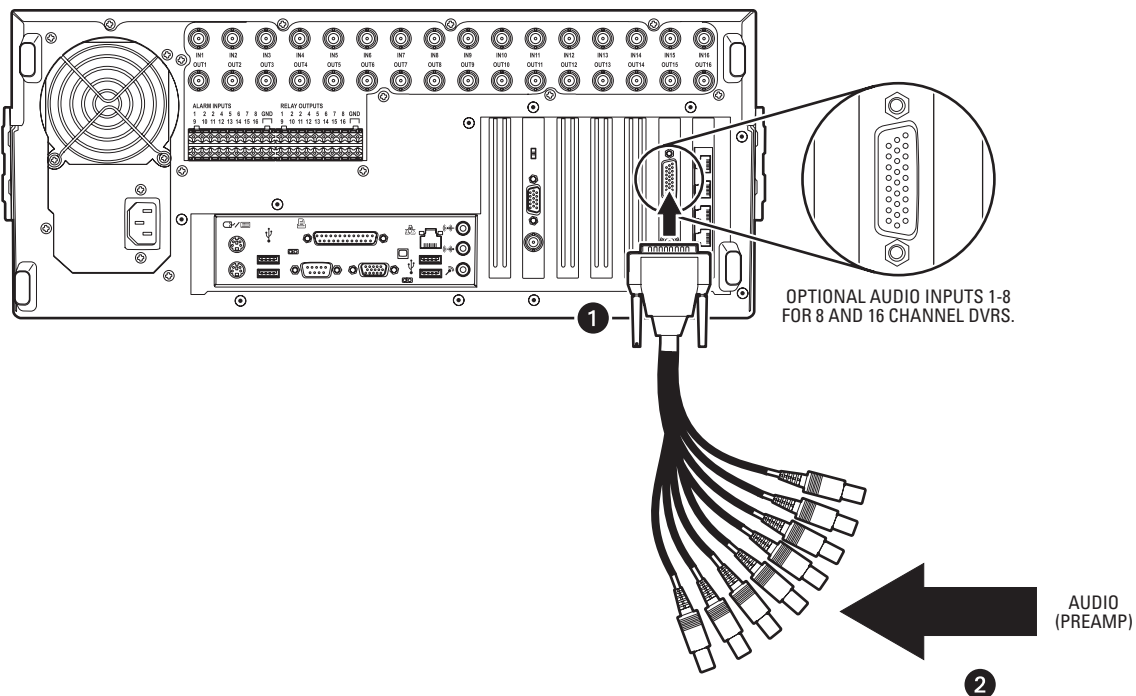

Figure 87. Audio Connector Installation
1. Connect the 26-pin audio breakout connector to the 26-pin Sub-D socket on the capture card to provide 8 or 16 individual audio inputs. Refer to Figure 87.